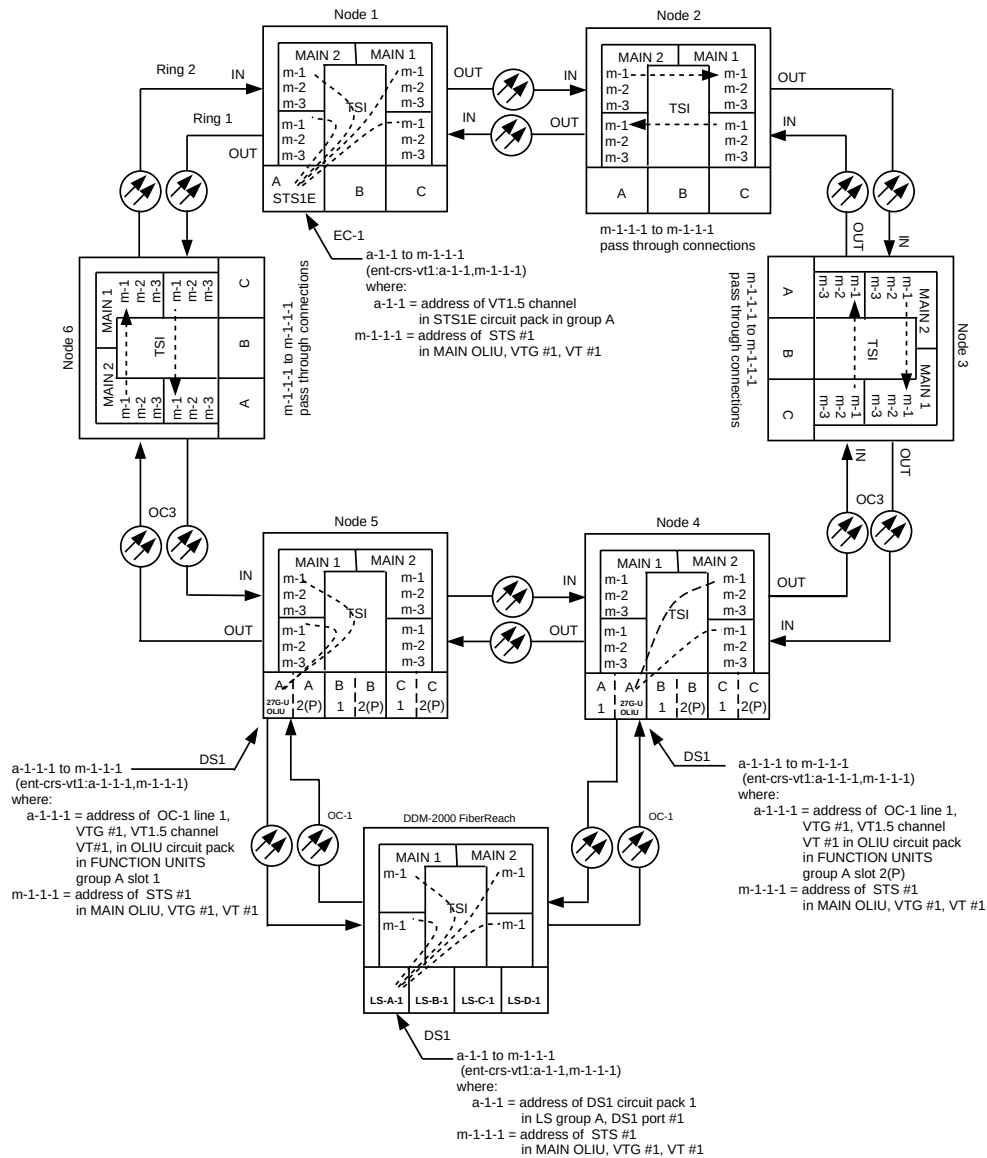

Figure 4. Example of Dual Homing OC-3/OC-1 Cross-connections
2. Verify system configuration is same as specified on work order or circuit order. For example, see Figures 4 through 13.
Cross-connections consist of drop and pass-through connections. For example in Figure 4, drop connections are made at Nodes 1, 4, 5, and the FiberReach node. Pass-through cross-connections are made at Nodes 2, 3, and 6. Also, cross-connections must be made in all interconnected rings, including other DDM-2000 OC-3 rings, DDM-2000 OC-12 rings, and FT-2000 OC-48 rings, as required.
In dual homing configurations (Figures 4-7), **OLIU** circuit packs must be installed in the correct slots in the host OC-3 nodes to support the direction of traffic required. For example in Figure 4, for traffic to be routed between Node 1 and the FiberReach system, **27G-U/27G2-U OLIUs** must be installed in **FUNCTION UNITS** group **A, B, or C**, slot **1** of Node 5 and **FUNCTION UNITS** group **A, B, or C**, slot **2(P)** of Node 4. This is required because traffic entering Node 5, slot **FUNCTION UNITS A 1** from the FiberReach shelf is automatically connected to the **MAIN-1 OLIU** when cross-connections are made. Traffic entering slot **FUNCTION UNITS A 2(P)** is automatically connected to the **MAIN-2 OLIU**.
11. At both terminating (drop) nodes of the circuit being established, use the "**ent-crs-vt1:**" command to make the terminating cross-connections (for example, Node 1 and FiberReach node in Figure 4, "**ent-crs-vt1:m-1-1-1,a-1-1:cct=twoway**")
12. At the host OC-3 ring node sites, make proper cross-connections. For example in Figure 4, at Node 5, if VT1.5 channel #1, VTG #1, STS #1 from the MAIN 1 OLIU is to be cross-connected to **FUNCTION UNITS** group **A**, OC-1 line #1, then the command "**ent-crs-vt1:m-1-1-1,a-1-1-1:cct=twoway**" would be used to make the cross-connection.